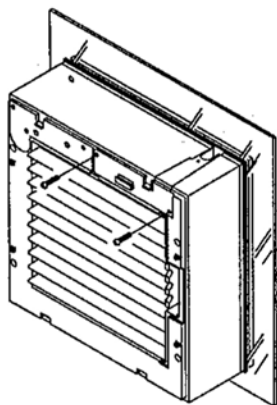

fig. 10
10. Position the covers on the cable entry point (H) and the connection box (I) and replace the screws (J). (**FIG 10**)
10. Position the covers on the cable entry point (H) and the connection box (I) and replace the screws (J). (FIG 10)